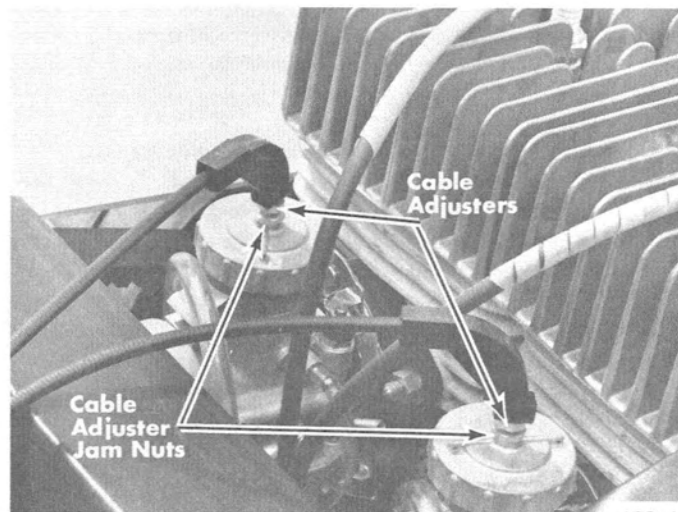

Figure 2. Cable Adjusters
- a. Loosen cable adjuster jam nut on each carburetor. (Figure 2)
- b. Turn cable adjuster(s) (Figure 2) until both throttle valves are synchronized (move at same time), and "slack" is removed from cables.